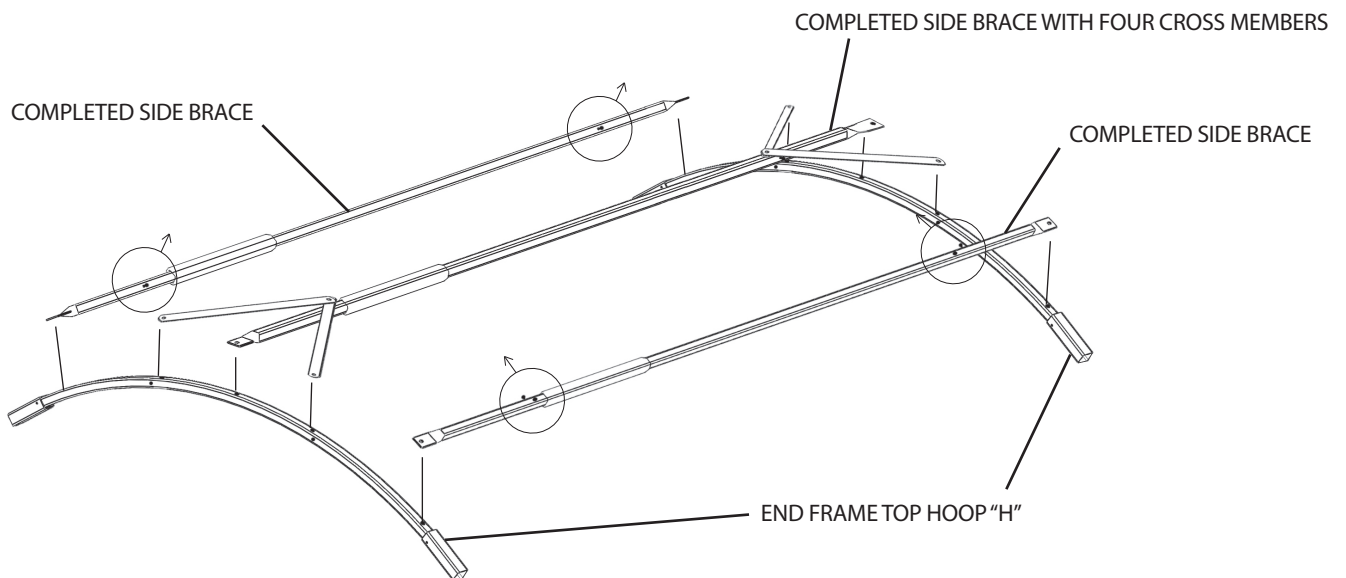

Figure 19.1
STEP 11: Locate the (5) parts that will be assembled to create the third section of the bale blind frame. These parts are the (2) END FRAME TOP HOOPS "H", (2) COMPLETED SIDE BRACES and (1) COMPLETED SIDE BRACE WITH FOUR CROSS MEMBERS. Using the hardware connection in (4) places, align and fasten the hole ends of the (2) COMPLETED SIDE BRACES with the corresponding holes in the (2) END FRAME TOP HOOPS "H", and fasten with (4) Bolts and (4) Nuts, as illustrated in Figure 19.1. Using the hardware connection in (6) places, align and fasten the hole ends of the (1) COMPLETED SIDE BRACE WITH FOUR CROSS MEMBERS with the corresponding holes in the (2) END FRAME TOP HOOPS "H", and fasten with (6) Bolts and (6) Nuts, as illustrated in Figure 19.1.
NOTE: The (2) COMPLETED SIDE BRACES to be installed on the outer most holes of the (2) END FRAME TOP HOOPS "H", will have their (4) Set Screws facing upwards, as illustrated in Figure 19.1.